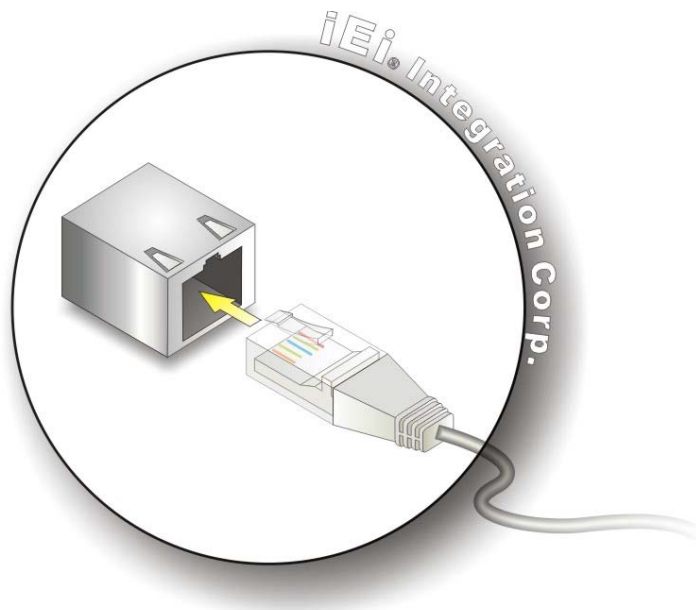

Figure 3-35: LAN Connection
Step 2: **Align the connectors.** Align the RJ-45 connector on the LAN cable with one of the RJ-45 connectors on the PPC-FxxA-H81. See **Figure 3-35**.